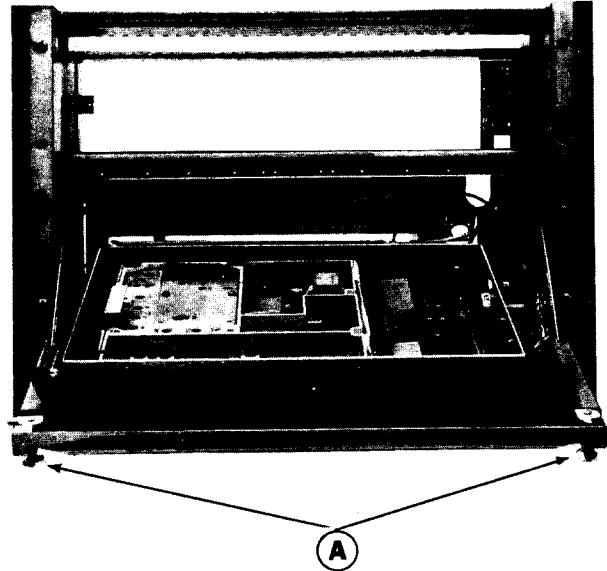

Figure 5 - Access To Exciter - Front View
1. Turn the two latching knobs (A) counterclockwise to unlatch the Radio Panel Front Door. Refer to Figure 5.